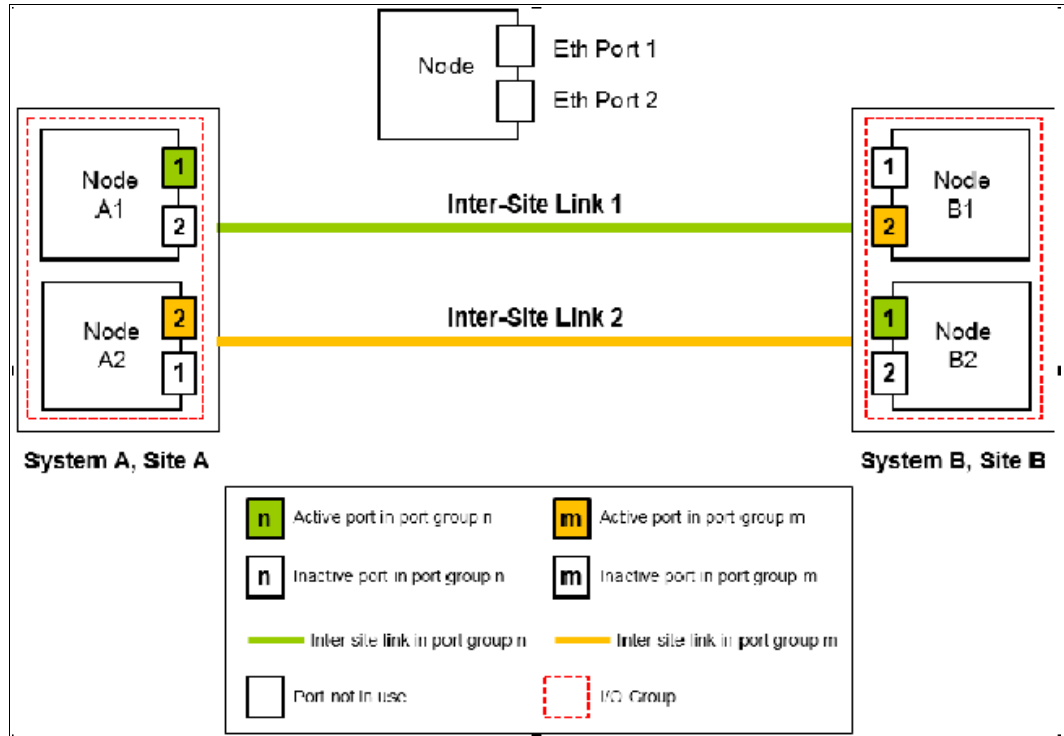

Figure 10-106 Dual links with two Remote Copy Port Groups with failover Port Groups configured
- An example of an *unsupported* configuration for a dual inter-site link is shown in Figure 10-106 (configuration 9).
As shown in Figure 10-106, this configuration is similar to Configuration 5, but differs because each node now also has two ports that are configured with RC port groups. In this configuration, the path selection algorithm can select a path that might cause partnerships to change to the Not_Present state and then recover, which results in a configuration restriction. The use of this configuration is not recommended until the configuration restriction is lifted in future releases.